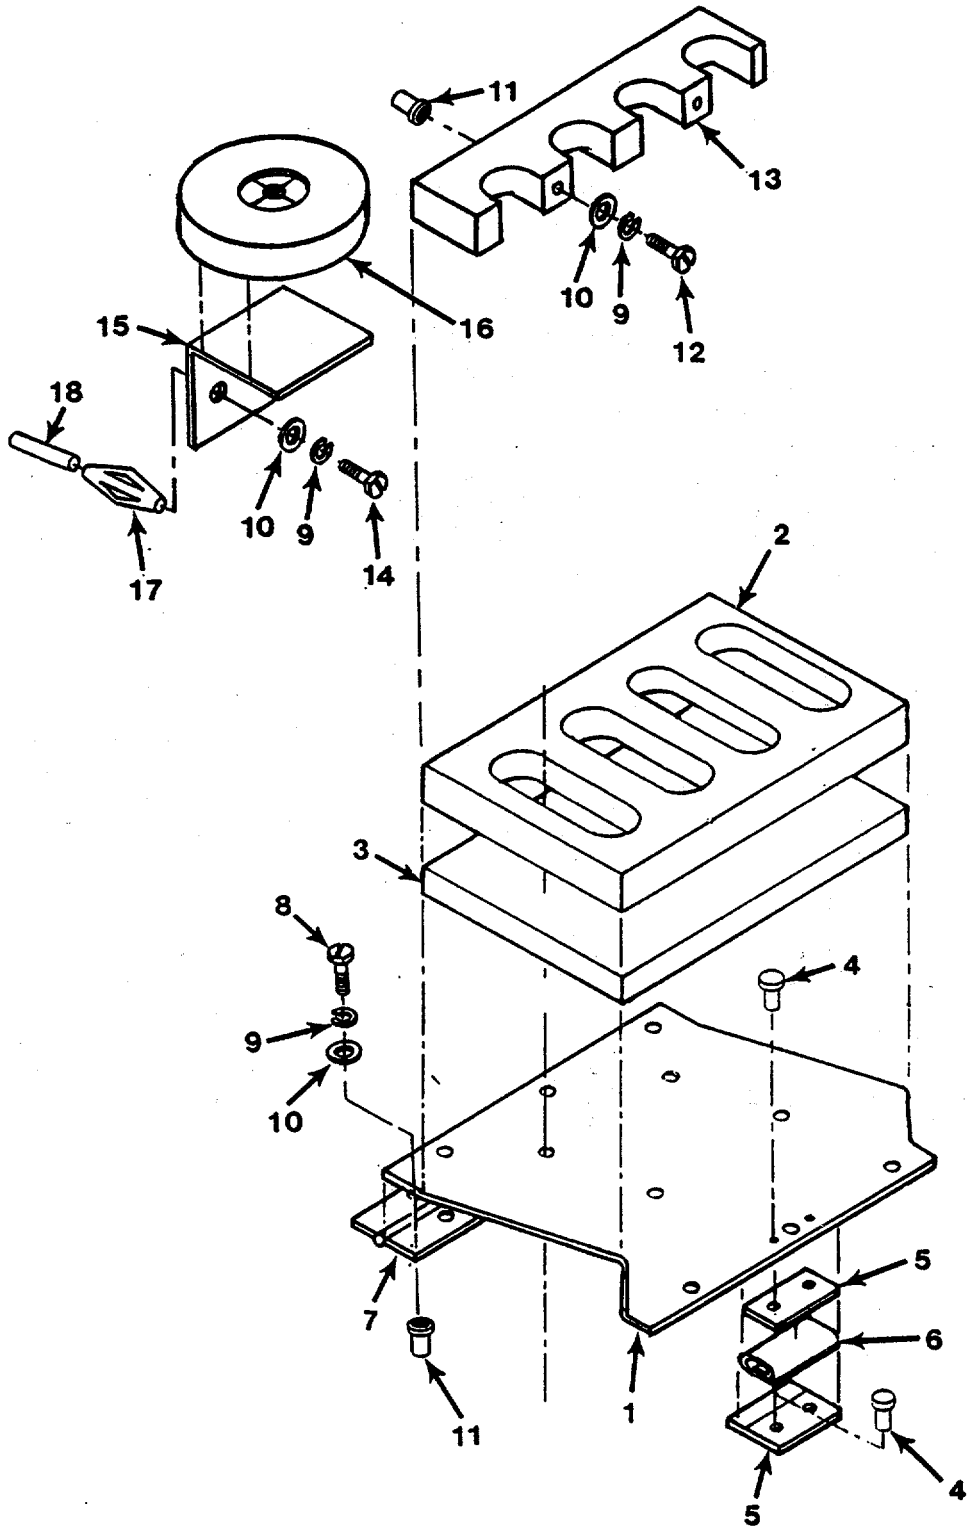

Figure 31. Weapons Rack Installation
| (1) ITEM NO | (2) SMR CODE | (3) CAGEC | (4) PART NUMBER | (5) DESCRIPTION AND USABLE ON CODES(UOC) GROUP 16 RIFLE RACK ASSEMBLY FIG. 31 WEAPONS RACK INSTALLATION | (6) QTY |